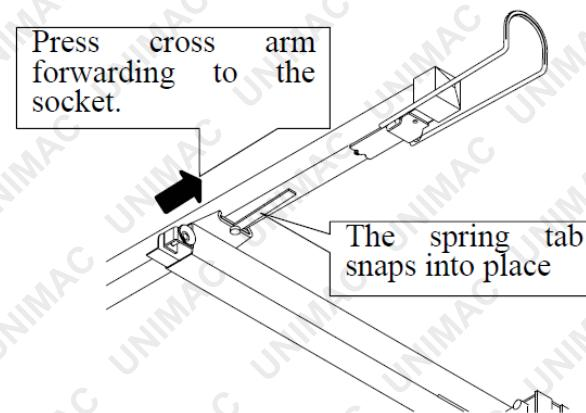

Fig. 11
- b. Press each cross arm forward to the socket until the spring tab on the bottom of the cross arm snaps into place, as shown in Figure 11.